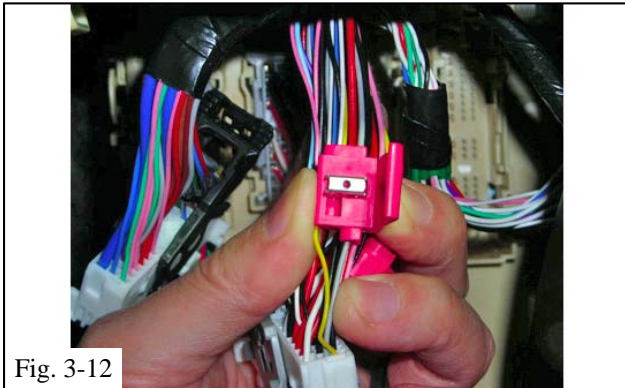

Fig. 3-12
- (o) Position the Scotchlok on the grey wire about one inch from the connector end (Fig. 3-12).